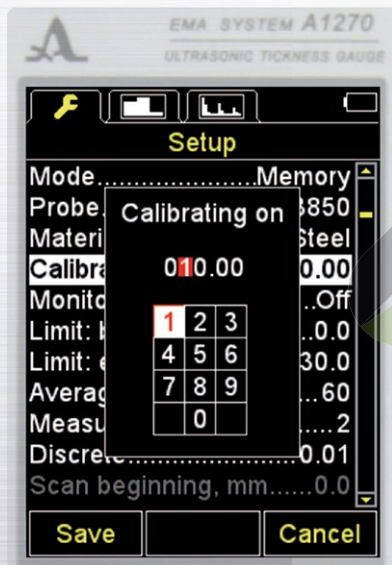

Figure 28
- Press the key **F2** (edit). The table with numbers opens (Figure 28).